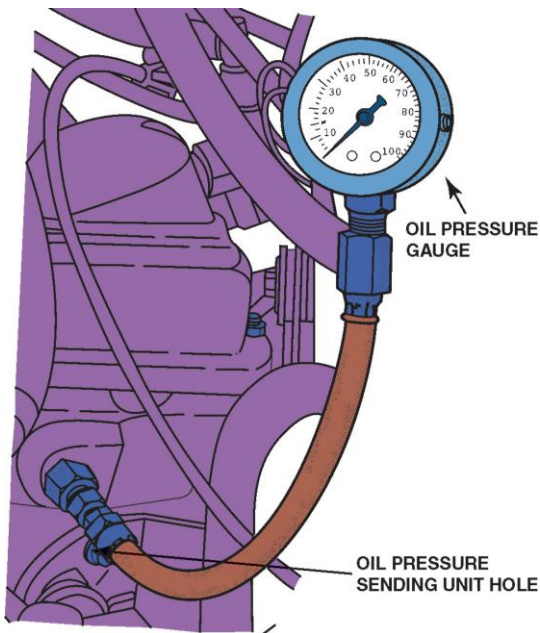

Figure 4. Checking oil pressure.
- Thread an oil pressure gauge into the threaded hole. Fig. 4.